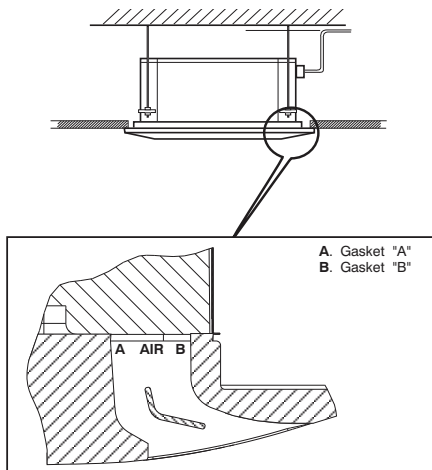

Fig. 37 - Gasket Location
- e. Ensure that the frame is not distorted by excessive tightening, that it is aligned with false ceiling and that there is seal between the air inlet and outlet. See Fig. 37.